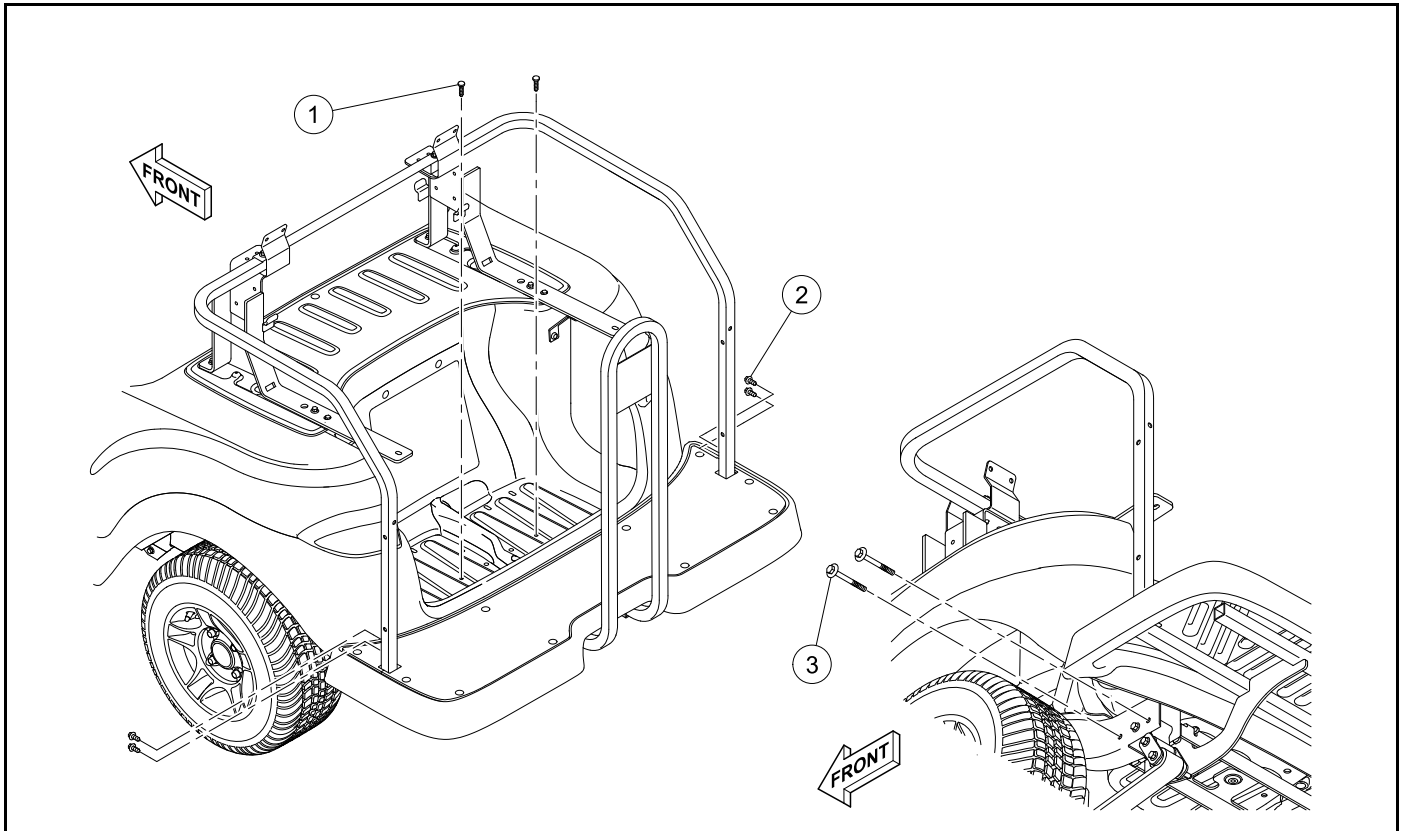

Figure 4-55
2. Install the bolts (3) (**Figure 4-55**). Tighten the bolts to 22 lb·ft (30 N·m).
3. Install the screws (2). Tighten the screws to 13 lb·ft (18 N·m).
4. Install the screws (1). Tighten the screws to 7 lb·ft (10 N·m).